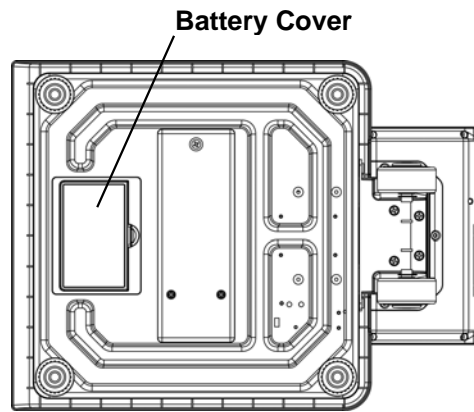

Figure No. 22
1. Referring to Figure No. 22, locate the rectangular battery cover on the bottom of the scale.